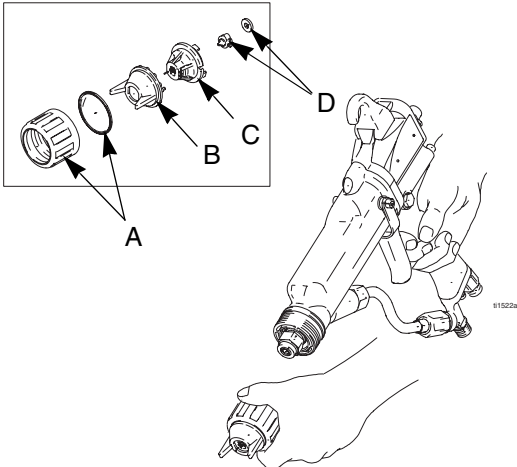

Fig. 1. Remove the Air Cap
3. Remove the retaining ring (A), tip guard (B), air cap (C), and tip assembly (D). See Fig. 1.